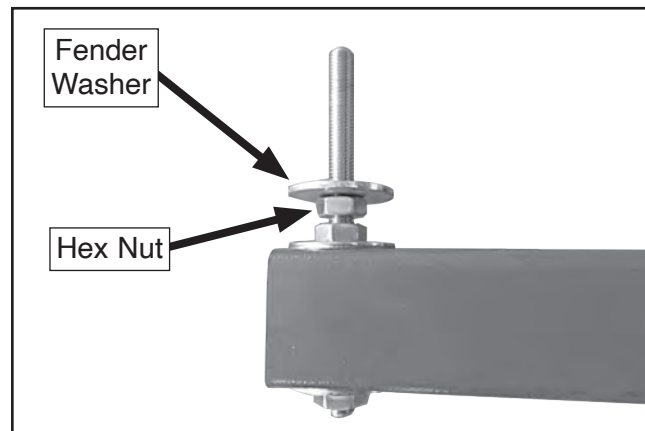

Figure 22. Fender washer installed on coil support stud.
6. Install (1) M10-1.5 hex nut and (1) 10mm fender washer on coil support stud (see **Figure 22**).